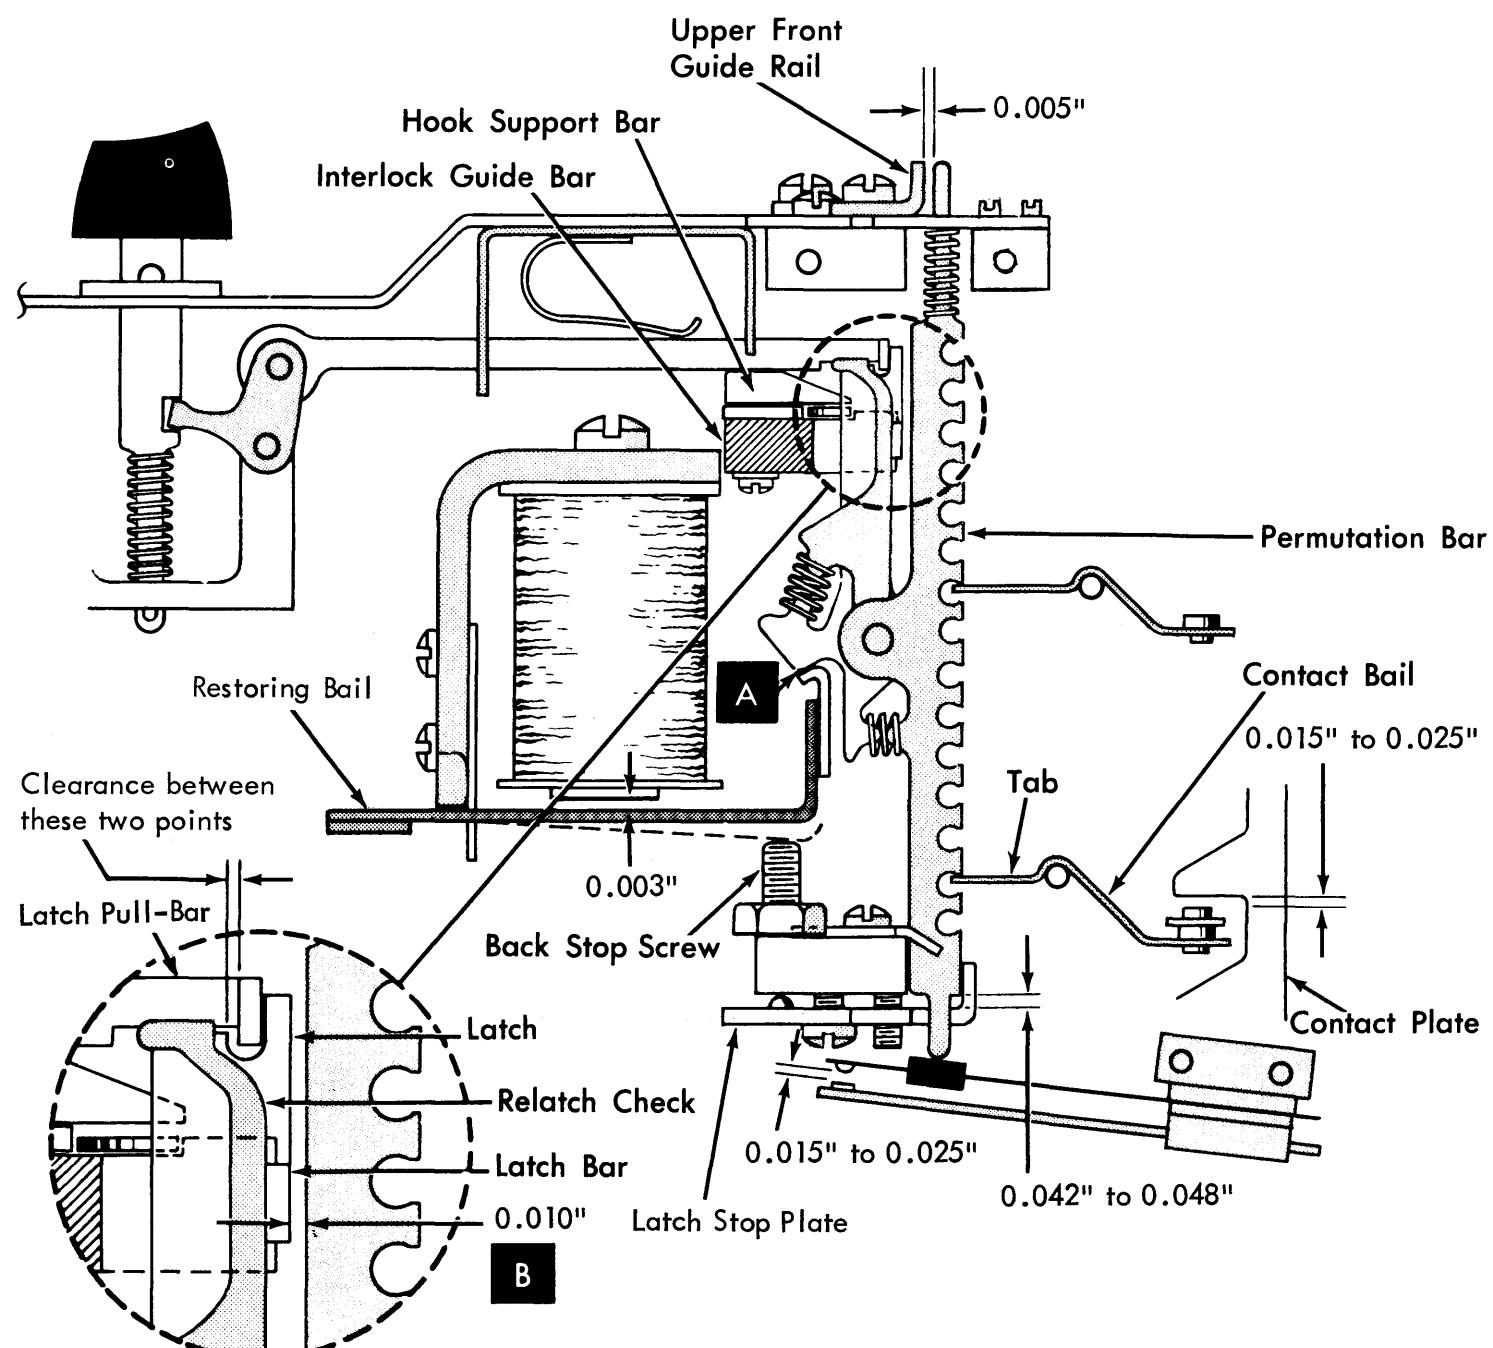

Figure 4-53. Keyboard Adjustment
With bail contact assemblies out of the machine, form each contact strap to require a pressure of 9 to 11 grams to close points (measure at contact point). Position the contact plates for contact air gap of 0.015 inch to 0.025 inch with all latch assemblies restored (Figure 4-53).
- bail contacts all latches at A, Figure 4-53. This should result in 0.010-inch maximum overtravel of latching point with gage removed.
*Note:* Do not oil or grease the hook ends of the latch pull-bars. On reassembly, check clearance of latch to pull-bar (Figure 4-53).
2. Lift the key from the unit while the end of the latch pull-rod is held up and clear of latch. Be careful that the keystem spring does not drop into the unit. Refer to Figure 4-53.
5. Reassemble keyboard. Check the clearance of the latch to the pull-bar (see Figure 4-53).